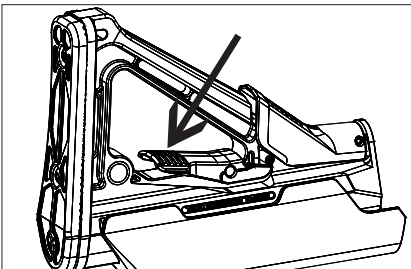

Figure 54 - CTR LOP Release Lever
4. Locate the release lever on the CTR shoulder stock. Note that it is spring loaded and when you push down on the lever it returns to its original position. (Fig 54)